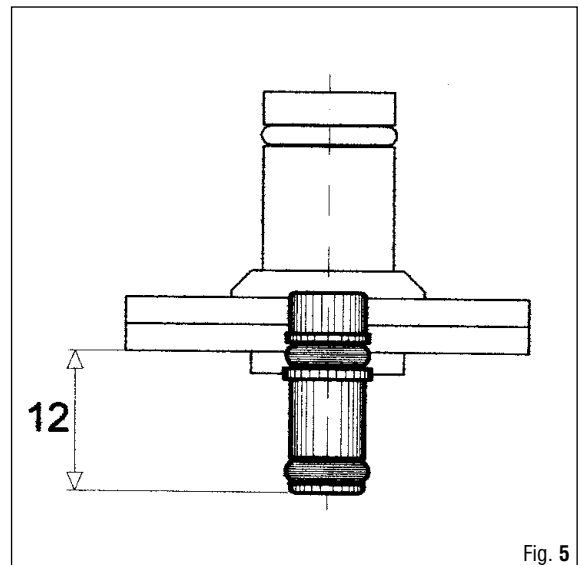

Fig. 5
15. Position the O-Ring (42) in the seat of the AT piston valve (41).
16. Arrange the sealing disk (40) in the corresponding housing of the AT piston valve (41).
17. Position the two O-Rings (23) in the corresponding seats of the spindle (55).
18. Correctly insert the O-Ring housing spindle (55) in the AT piston valve (41) (see Fig. 5).